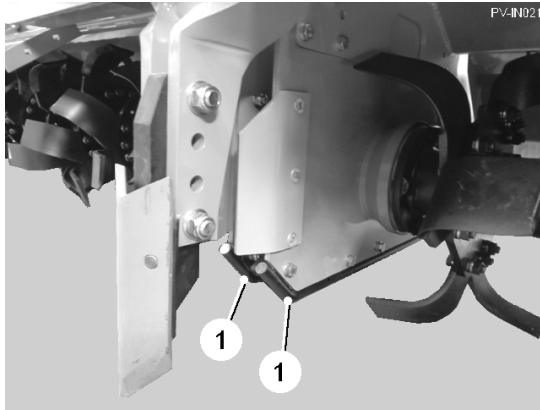
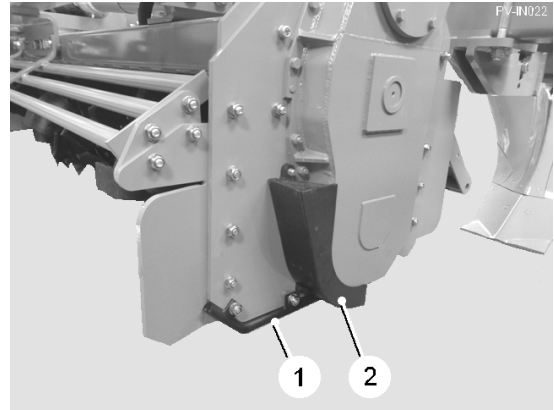

Fig. 17
Fig. 18
The replaceable wear strips (item 1, fig. 17) and (item 1, fig. 18) are fitted to protect the front and bottom edges of the side plates. These should be replaced when worn as they help to prevent damage to the main rotor bearing housings.
The wear plates (item 2, fig. 18) are fitted to protect the side drive gear cases. Failure to keep these in place and in good condition will result in major damage to the drive assembly.